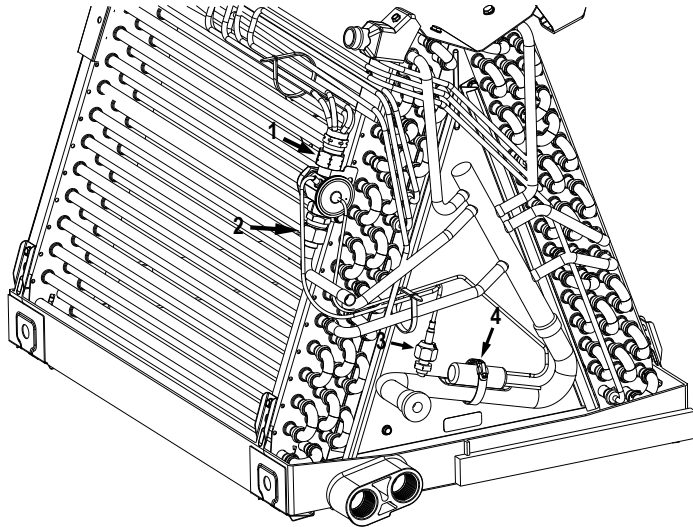

Fig. 16 – Mechanical TXV Removal
**NOTE:** For Item #1 (Fig. 16): Use an adjustable wrench with a backup adjustable wrench to loosen the brass nut (TXV outlet). Then use both wrenches to loosen Item # 2 (TXV inlet).